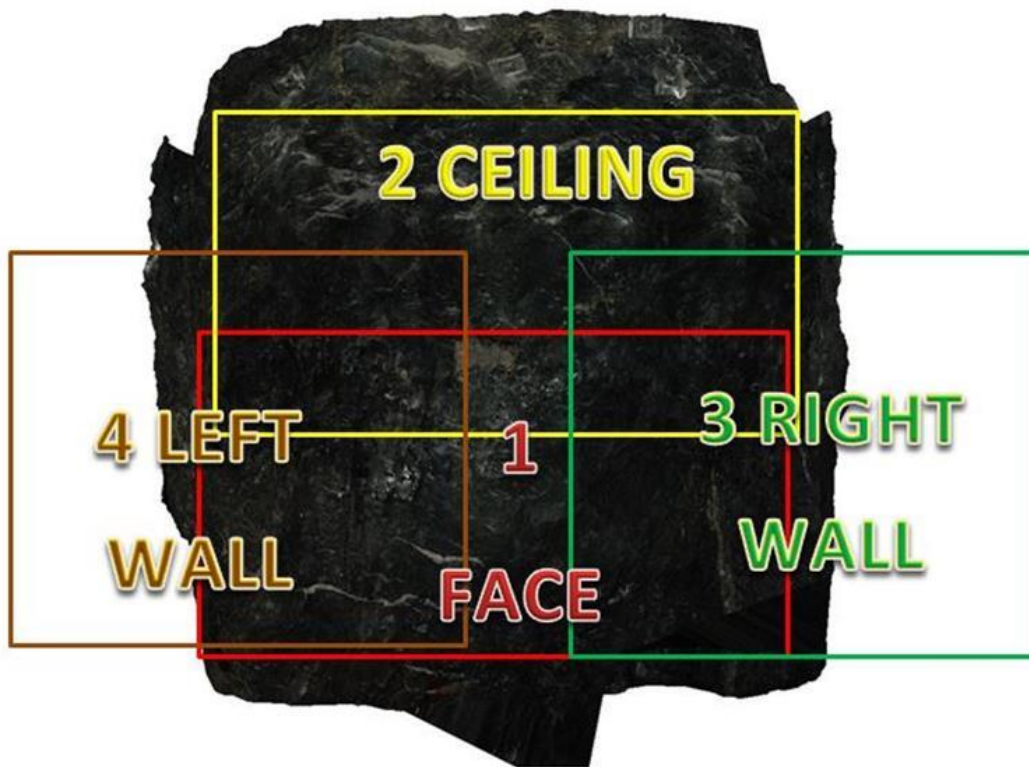

FIGURE 8: FOUR STEREOPAIRS COVERAGE DELINEATED BY DIFFERENT COLOURED RECTANGLES.
- a. **Camera placement** – move the camera as far to the left as you can go whilst remaining underneath the shotcrete for safety but so that you can obtain as close to a perpendicular angle in to the rock face as you can get.. Point the camera in to the right corner, making sure you get 50% overlap with the face wall (green and red rectangles in Figure 8
- c. **Camera placement** – move the camera as far to the right as you can go whilst remaining underneath the shotcrete for safety but so that you can obtain as close to a perpendicular angle in to the rock face as you can get.. Point the camera in to the left corner, making sure you get 50% overlap with the face wall (brown and red rectangles in Figure 8